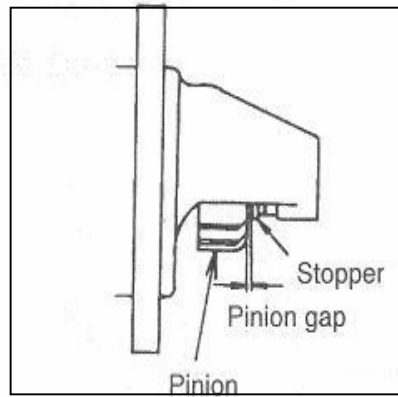

Fig. 9-4
- (4) Check the gap between pinion and stopper. (see Fig. 9-4)。